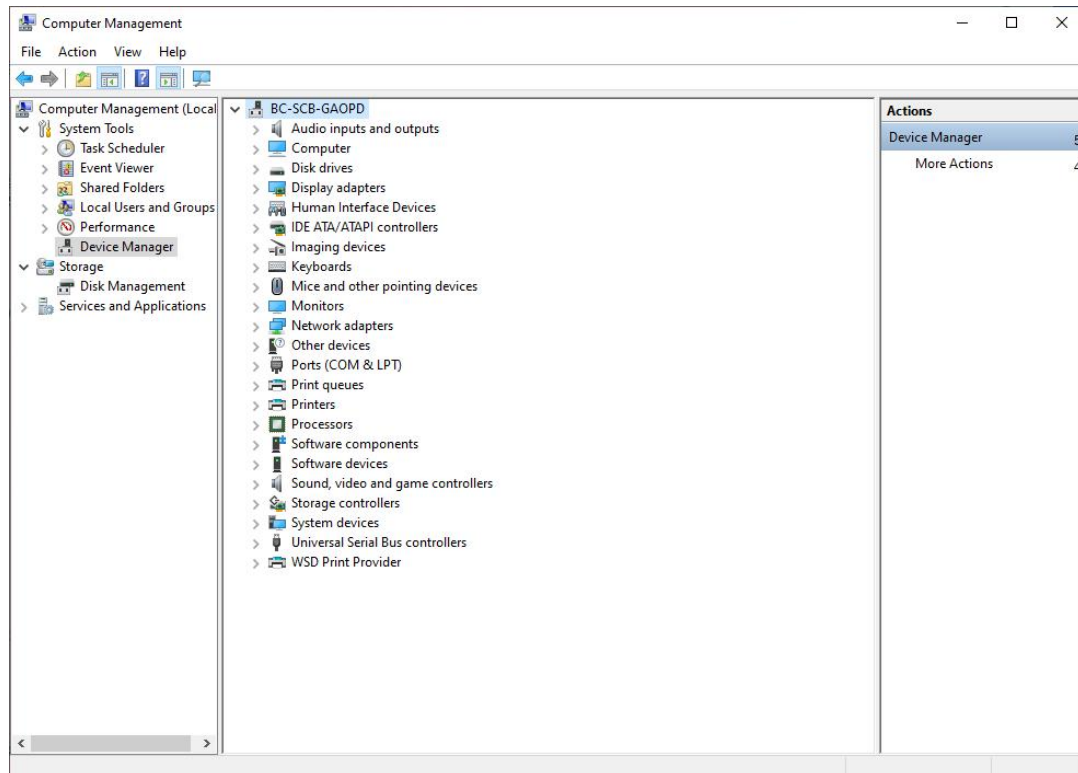

Figure 8 Unknown Device
2. Open the "Device Manager", it will display "Other Devices" as shown in Figure 8, if its driver is not installed.